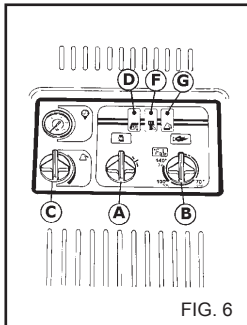

FIG. 6
Turn the thermostat knob "B" (fig. 6 on page 21) to steam position to obtain an increase in the temperature of the water at delivery. At work temperatures higher than 95°C (203°F), the work pressure must be  $\leq 32$  bar (460 PSI).
**When you have finished using the "Steam Phase", turn the thermostat knob "B" to position "0" (fig. 6 on page 21) and let the machine cool down for about 3 minutes with the gun turned on.**